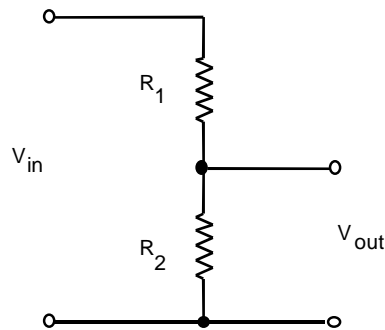

Figure 1-8
- 🔧 Measure the values of the resistors shown in Figure 1-8, then wire up the circuit. Use the prototyping board. Use the 5-Volt power supply built into the prototyping board to supply  $V_{in}$ .